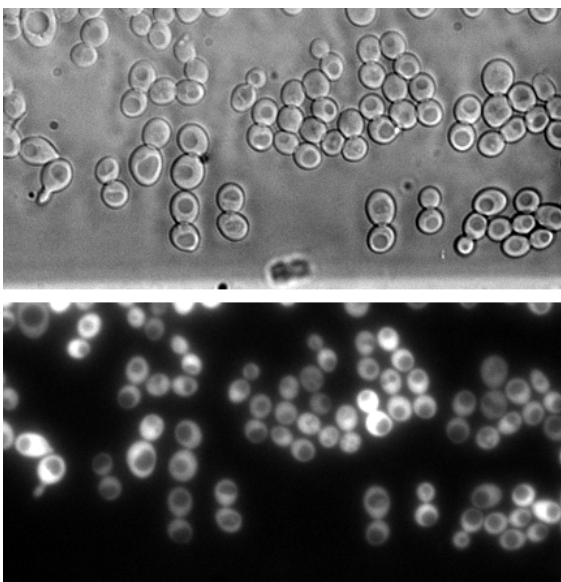

Figure 3 Cell Microscopy
7. Turn on "cell load" switch to transport cells into the trapping region. The suggested loading protocol is at 6-8 PSI for 10 seconds. The loading profile will depend on cell density, cell size, and desired trapping density. When loaded, the trapping region will look similar to Figure 3.